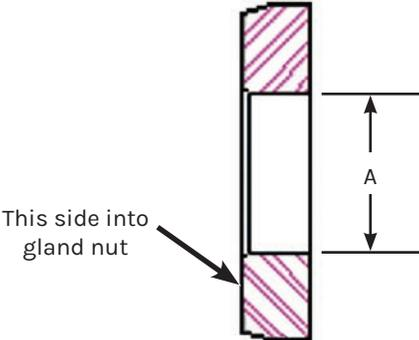

Figure 93: Guide Bushing Check (40K Only).
2. On 40K units, measure the diameter of the guide bushing (Figure 93, A). If the diameter exceeds the Dimension A specification listed in the “40K Guide Bushing Replacement Table” below, replace the bushing. If the bushing shows scoring or if the edge is chipped, replace the bushing.